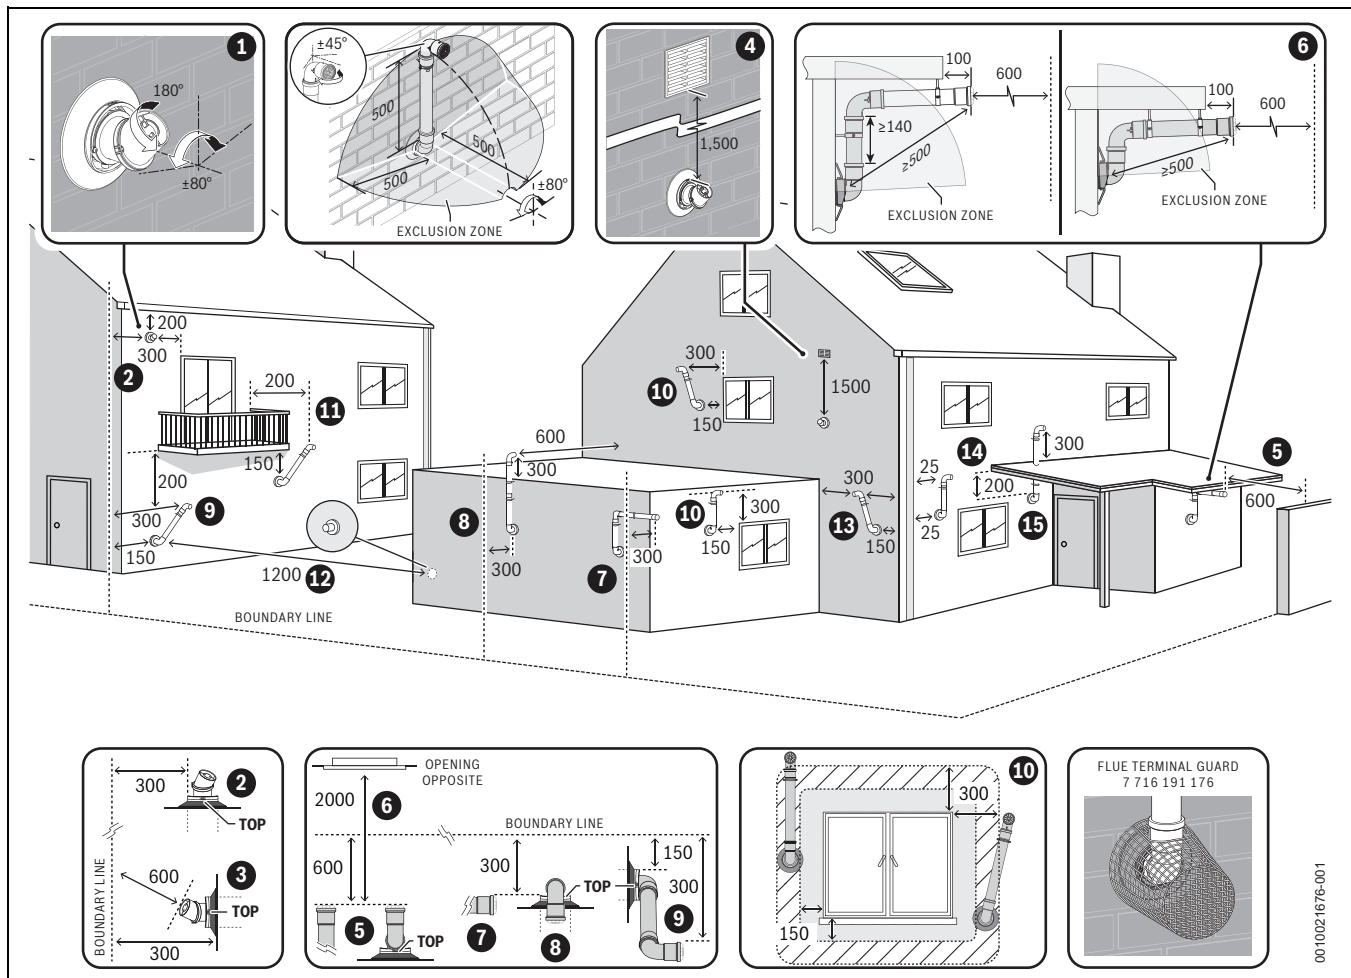

Fig. 35 Plume re-direct and plume management terminal positions
- ▶ Refer to “Horizontal flue terminal positions” for all concentric flue terminal positions unless the flue position is specified in figure 35 “Plume re-direct and plume management terminal positions”.
Key to figure 35 - Plume re-direct terminal positions:
Key to figure 35 - Plume management terminal positions: